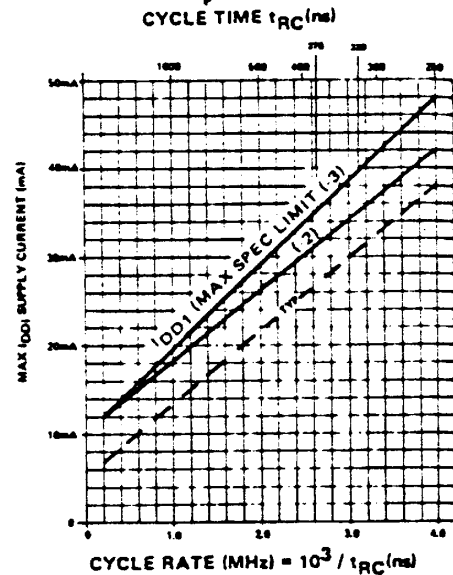

Fig. 2 Maximum I_{DD1} versus cycle rate for device operation at extended frequencies. I_{DD1} (max) curve is defined by the equation:
- I_{DD1}, I_{DD3}, and I_{DD4} depend on cycle rate. See figures 2, 3, and 4 for I_{DD} limits at other cycle rates.
In system applications requiring lower power dissipation, the operating frequency (cycle rate) of the MK 4116 can be reduced and the (guaranteed maximum) average power dissipation of the device will be lowered in accordance with the IDD1 (max) spec limit curve illustrated in figure 2. NOTE: The MK 4116 family is guaranteed to have a maximum IDD1 requirement of 35mA @ 375ns cycle (320ns cycle for the -2) with an ambient temperature range from 0° to 70°C. A lower operating frequency, for example 1 microsecond cycle, results in a reduced maximum IDD1 requirement of under 20mA with an ambient temperature range from 0° to 70°C.